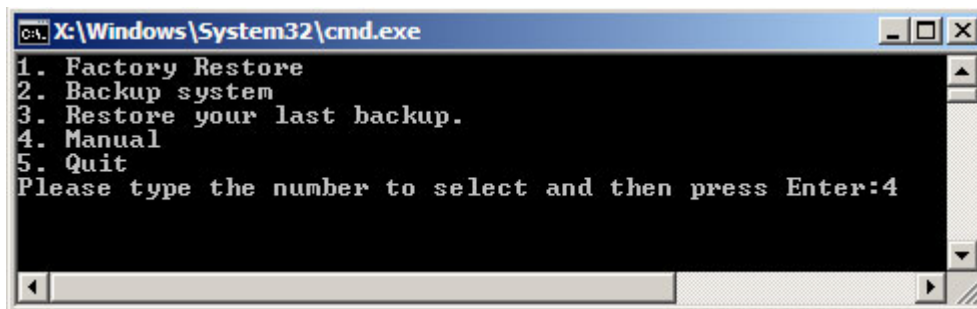

Figure B-11: Recovery Tool Menu
**Step 2:** The recovery tool menu appears. Type <4> and press <Enter>. (**Figure B-11**)